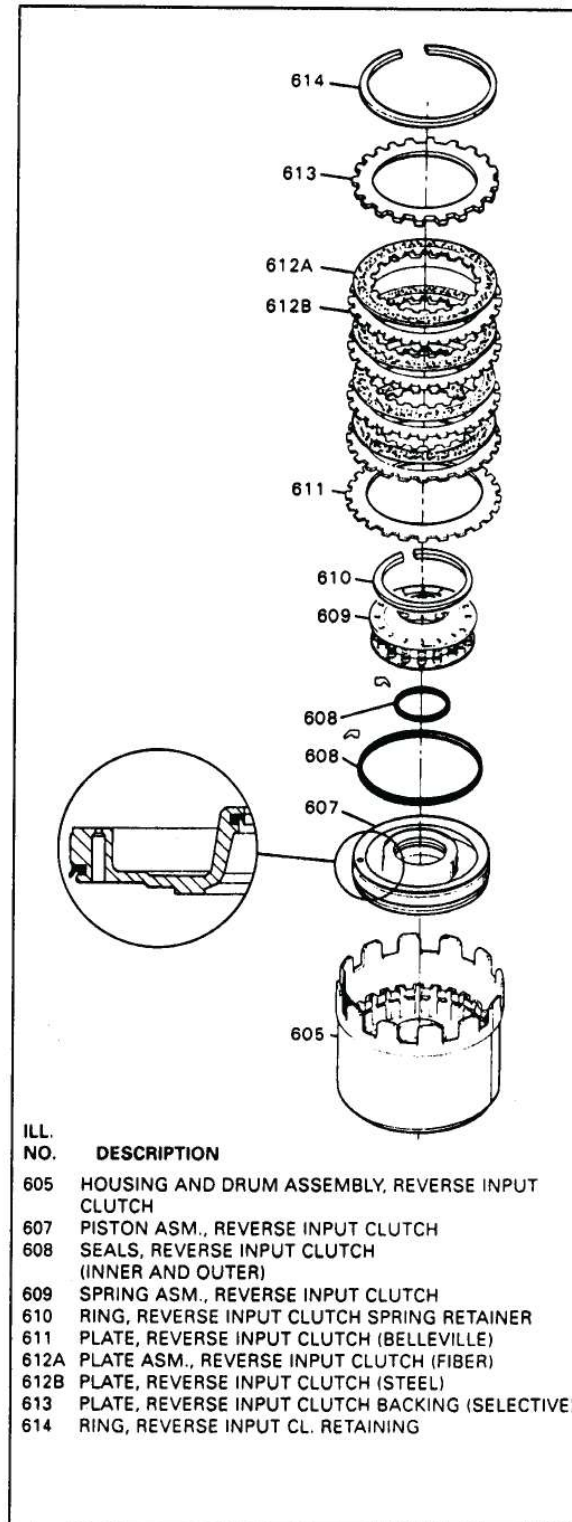

Figure 121
6. Install the inner and outer lip seals onto the reverse input piston, and lubricate with TransJel. Lips on the seals must face direction shown in Figure 121.